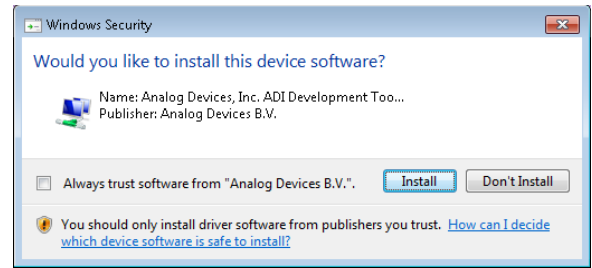

Figure 9. EVAL-SDP-CH1Z Drivers Installation—Windows Security
3. Click **Install** to proceed with the installation (see Figure 9).